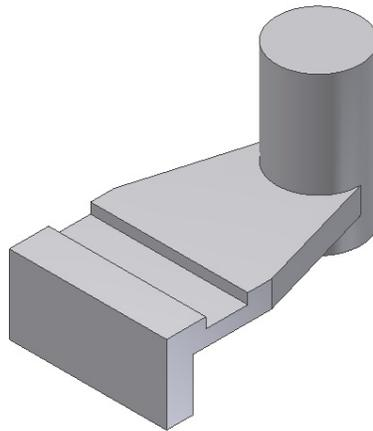

Figure 5-102 Model after creating the cylindrical feature
- c. Create a work plane at an offset of 10 mm from the bottom face of the join feature and then create a cylindrical join feature on it, refer to Figure 5-102.
7. Extrude the sketch to a distance of 60 mm in the upward direction and then increase the drawing display area. The extruded feature is shown in Figure 5-102.
9. Choose the **Visibility** option from the shortcut menu; the check mark is cleared making the work plane invisible. Figure 5-102 shows the model after turning off the visibility of the work plane and changing the current view to the isometric view.